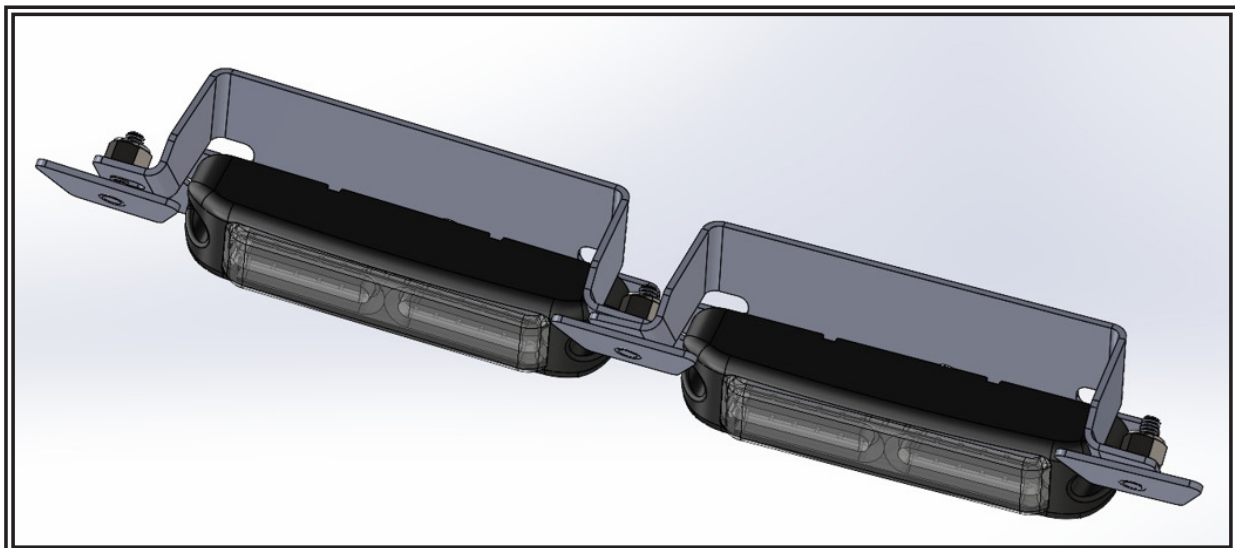

Figure 4
4. Repeat Step 3 for the other stud mount bracket. **NOTE: If multiple lights are to be installed next to each other, they will share a single stud mount bracket between them. Make sure to place both upper grille brackets on the single stud and attach with a single washer and nyloc nut. See Figure 4 (Grille hidden for clarity).**